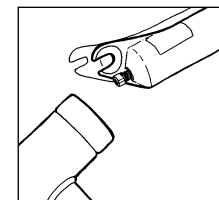

Fig. 6
6. Partially loosen shaft bolts with a 5mm hex wrench, tap bolts firmly with a mallet breaking shafts free from lower tube (see Fig. 6), and remove bolts completely. Oil from the Hydracoil system will pour out of the bottom of the lower tube assembly when you remove the shaft bolts. Use the oil pan to catch and properly dispose the oil.